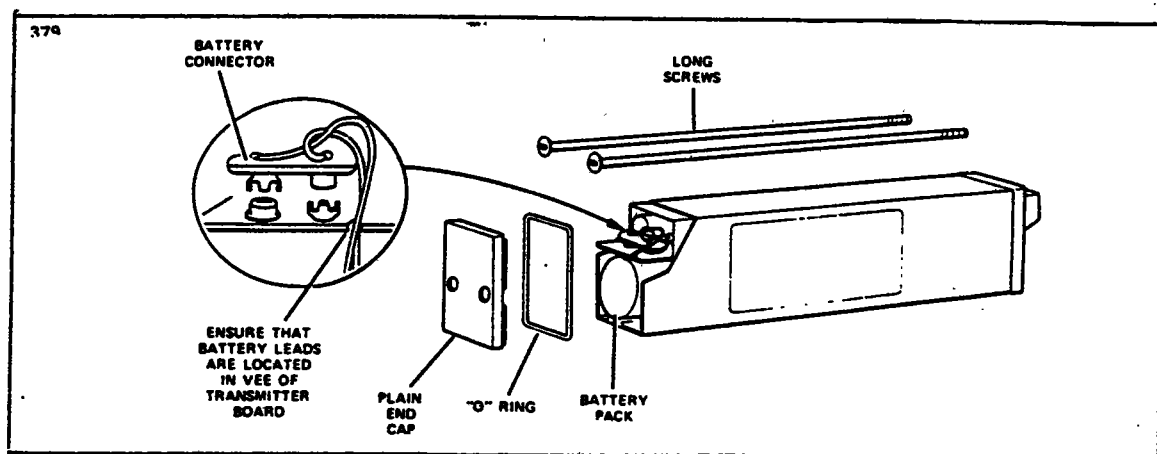

Figure 12-1. Two Year, Magnesium Battery Connections
**12-4. BATTERY REMOVAL AND INSTALLATION.** (2 year, magnesium battery, refer to Figure 12-1.) The ELT is located on mounting brackets on the right side of the fuselage aft of sta. 228.30.